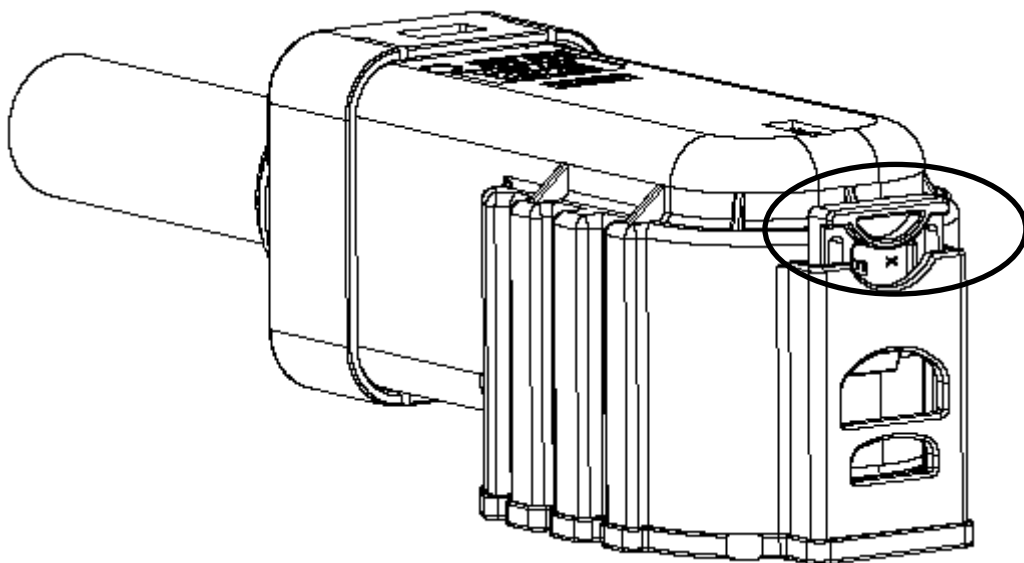

Figure 28
- A. Make sure CPA of plug assembly is in pre-lock position (see Figure 28).